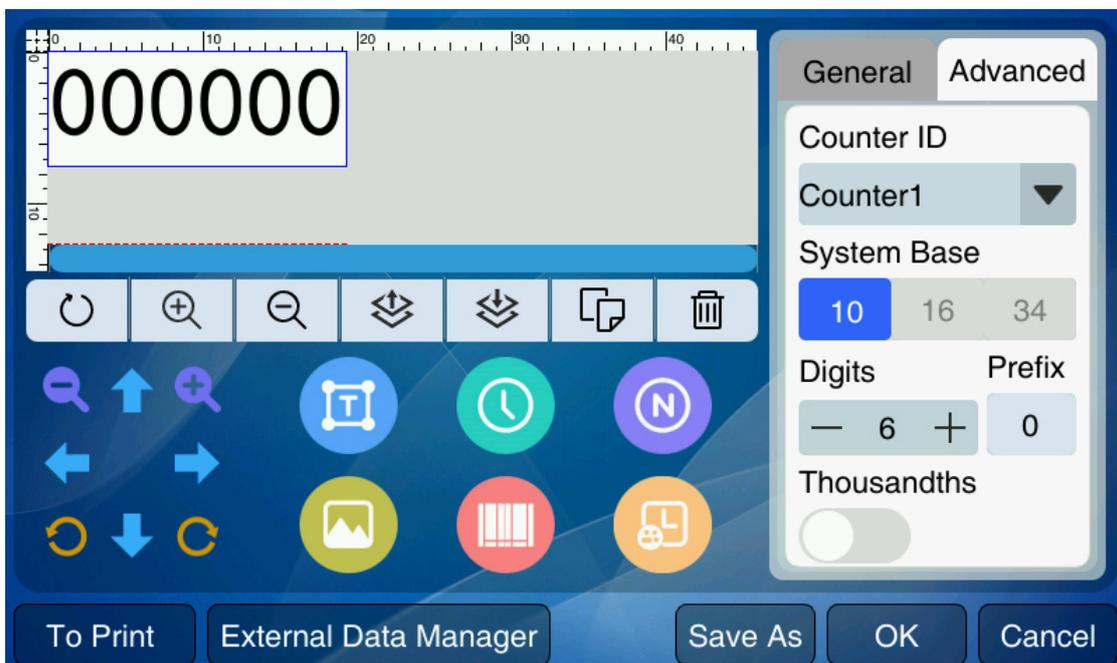

Figure 5-8 Serial number editing interface
1、 If you need to print a variable serial number, that is, the count content in the printed information is automatically updated without human intervention, please click the button in the "Information button area", and a default serial number entry will appear in the "Information editing area". As shown in Figure 5-8.